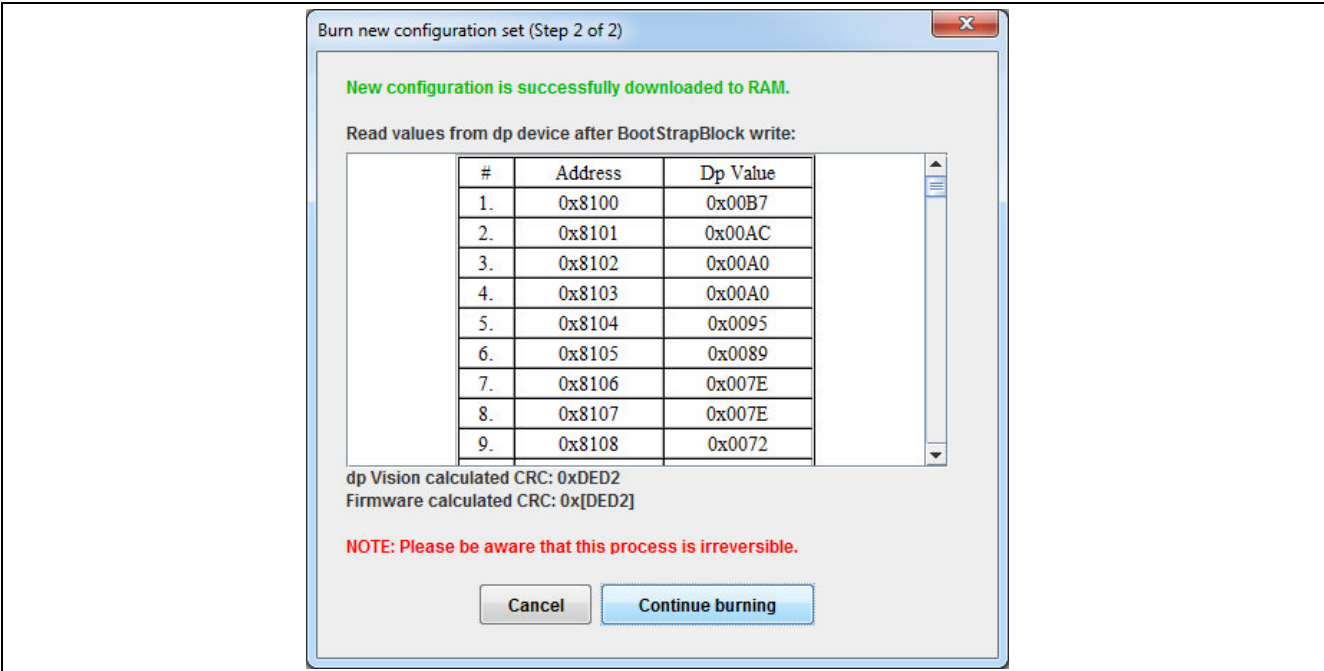

Figure 41 Burning a New Parameter Set – Step 2
2. Press the “Yes” button to continue. The new configuration will be successfully downloaded to RAM – see Figure 41.